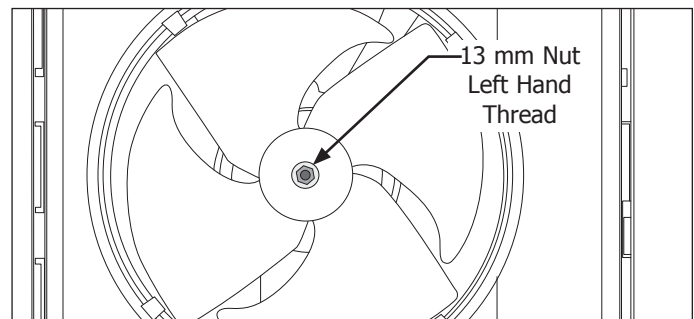

Figure 4-102.
11. Use a 13mm socket or wrench and remove the left hand nut and lock washer securing the fan blade to the fan motor shaft. Pull the fan blade from the motor shaft. (See Figure 4-102)